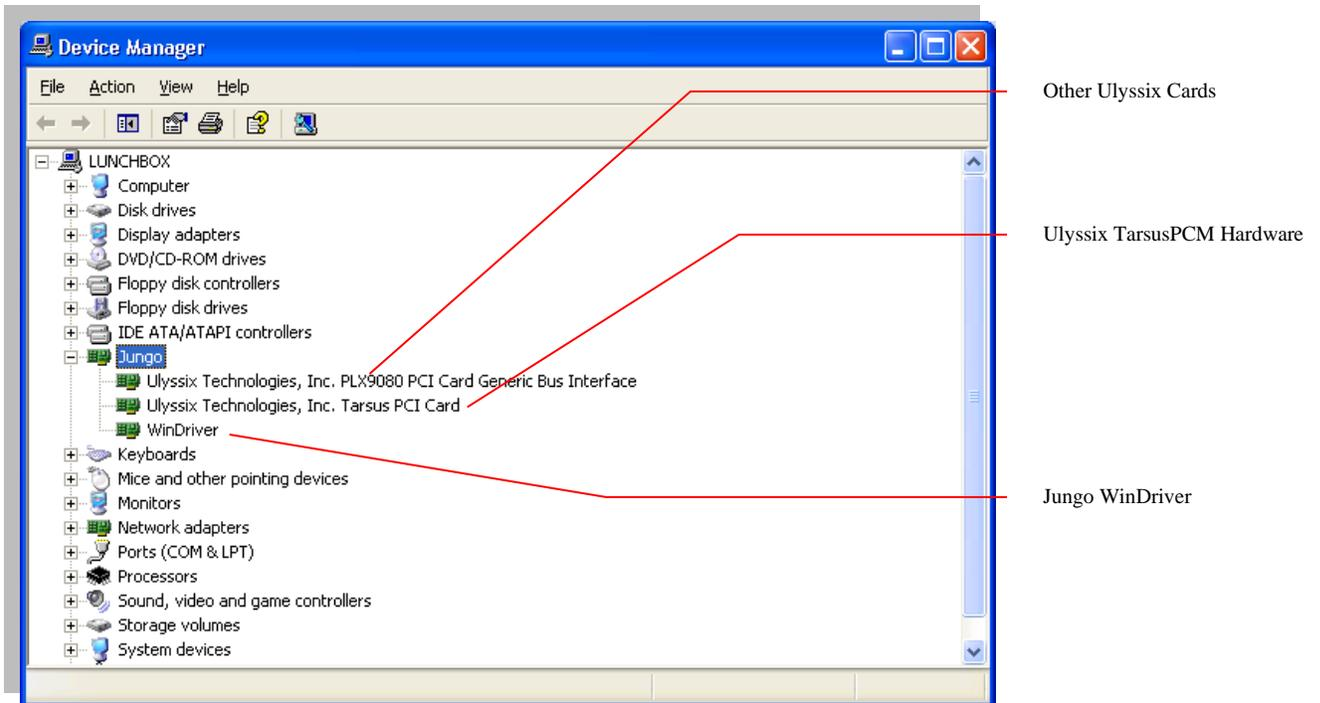

Figure 190 – Device Manager Jungo Driver
5. If your system is running the Jungo driver, open the Jungo folder in the hardware list. The display should look similar to **Figure 190 – Device Manager Jungo Driver**.